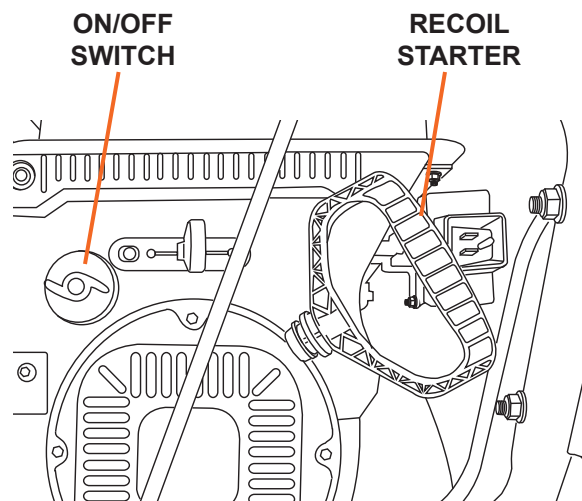

Figure 10
5. Turn the ON/OFF switch on (see Figure 10).